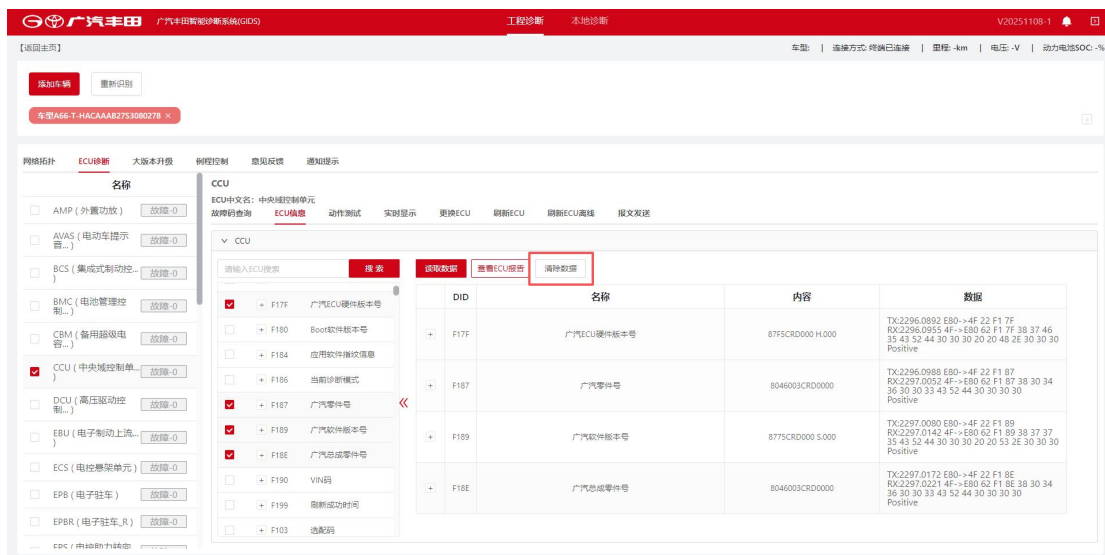

Figure 5-13 Clear Data
1. Click [Clear Data] to clear the queried data, as shown in Figure 5-13 Clear Data. After clearing, the data can be re-read.